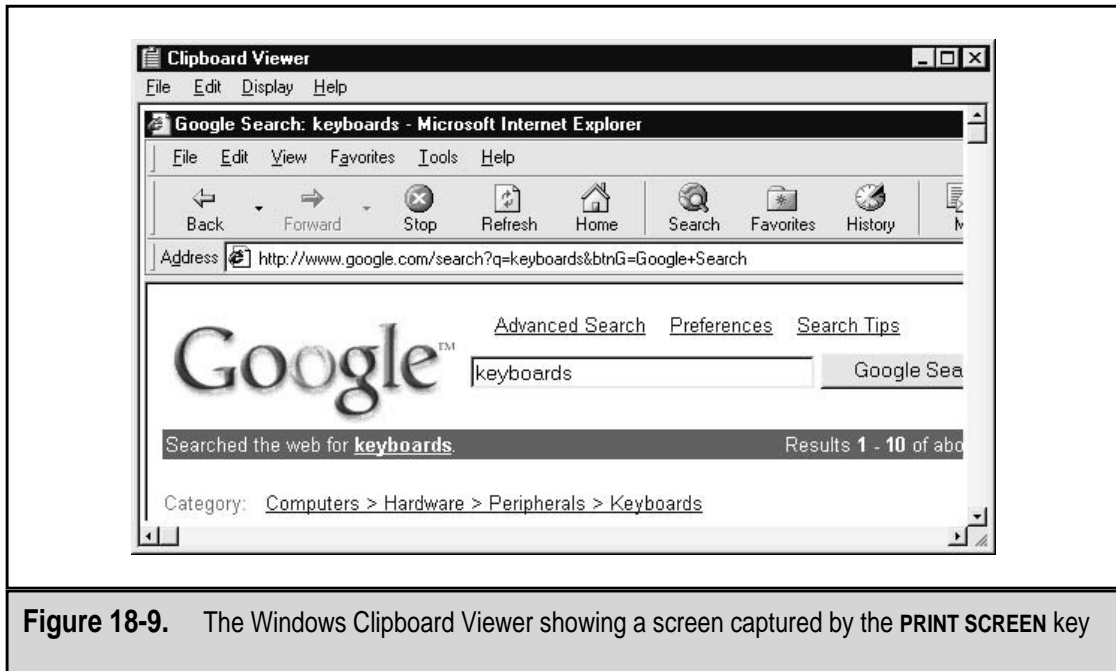

Figure 18-9. The Windows Clipboard Viewer showing a screen captured by the PRINT SCREEN key
- **PRINT SCREEN/SYSRQ** The PRINT SCREEN mode of this key got its name back in the MS-DOS days, when pressing it sent the image of the display to the printer. On a Windows system, the image of the monitor's display is sent to the Windows Clipboard. Figure 18-9 illustrates the contents of the Windows Clipboard Viewer after the PRINT SCREEN key was pressed with a Web browser on the screen. The alternate mode of this key is a system request action. This key has no real function on most PCs unless the PC is emulating an IBM terminal connected to a mainframe computer.